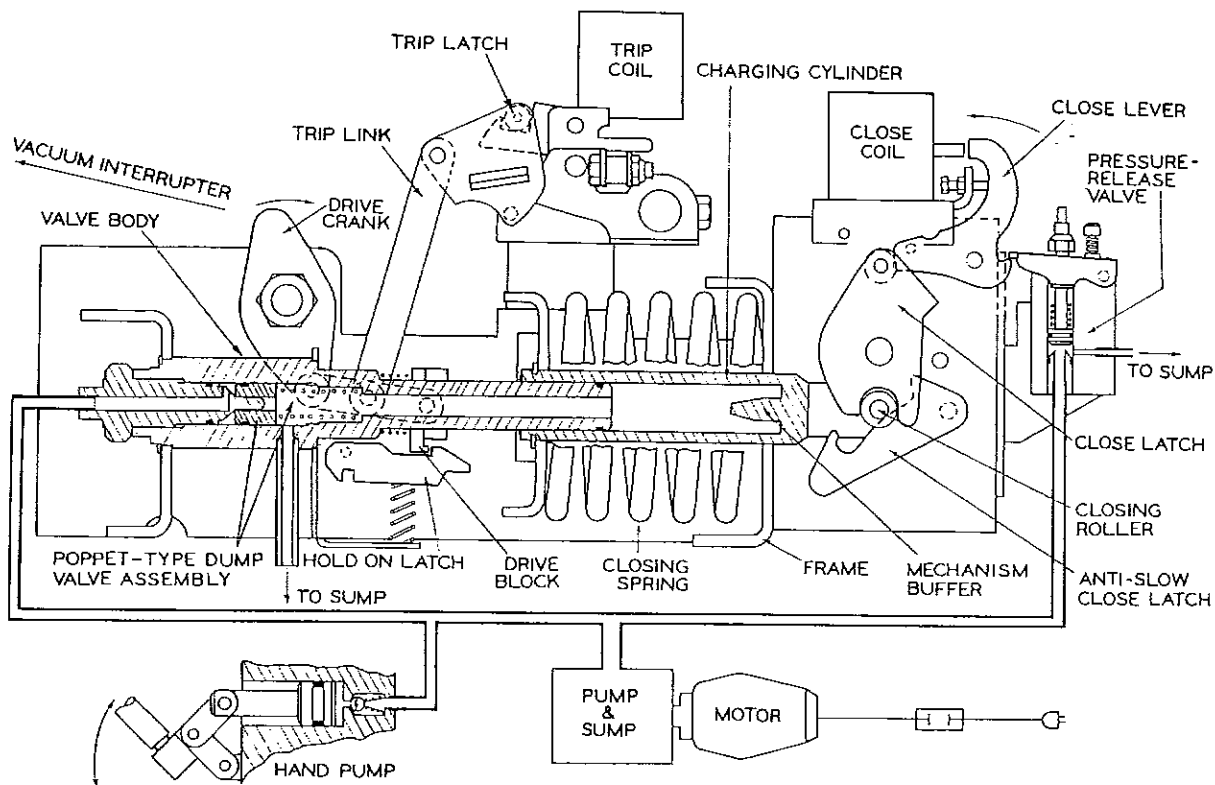

Figure 5
8. Charging cylinder moves closing spring to the charged position, Figure 5.
- The breaker is now ready for an opening operation. Figure 5.*
3. As trip link collapses, hold-on latch disengages and drive block moves back toward charging cylinder and trip link resets, Figure 5.